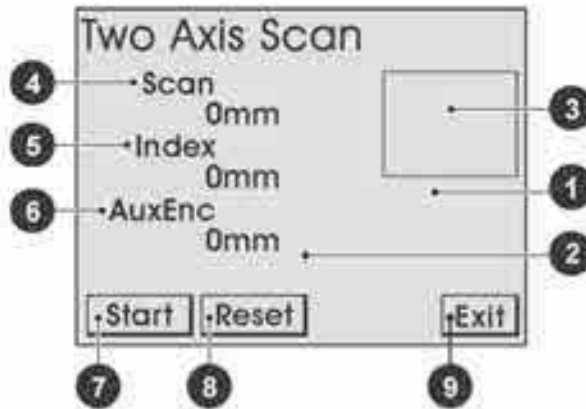

Figure 3-26 The Two Axis Scan screen
The **Two Axis Scan** screen initiates and monitors the two axis scan (see Figure 3-26 on page 78). The screen displays a visual representation of the scan area. The small circle (2) indicates the A position. The square (3) indicates the scan area described by the B and C positions.